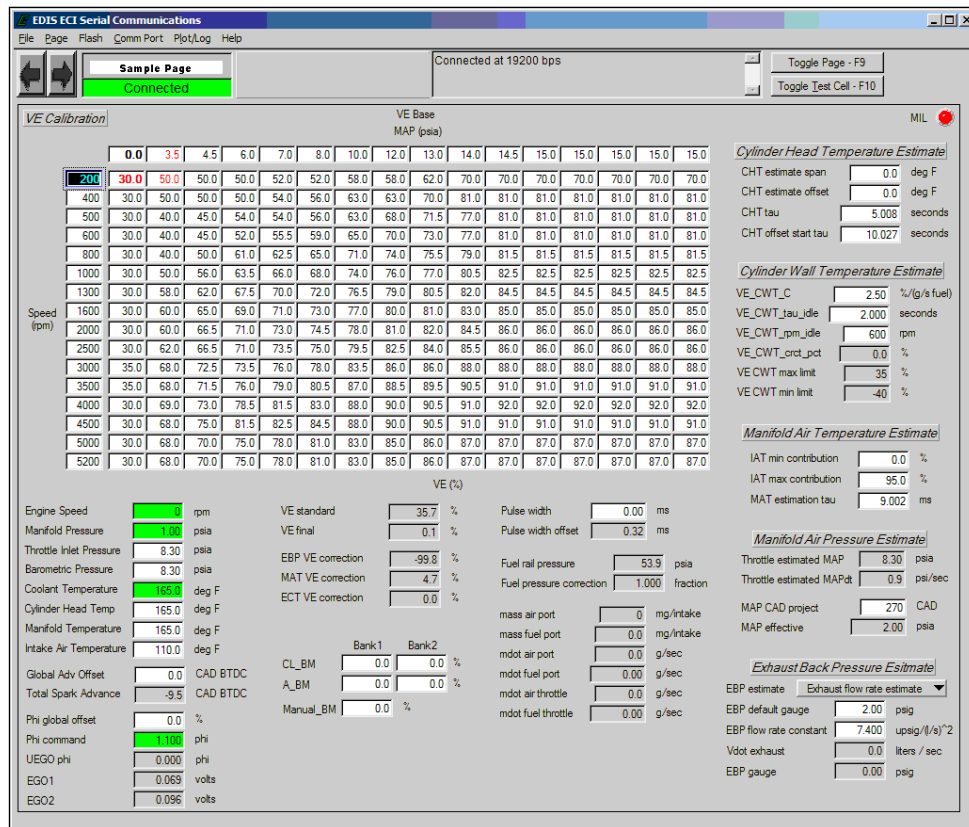

Figure 5: Tagged Variables for Plot/Log
Figure 5 shows an example of variables that have been tagged. A maximum of twenty (20) variables may be tagged for logging and a maximum of ten (10) variables may be tagged for plotting. The maximum achievable sample frequency/minimum period is dependent on the number of variables tagged.